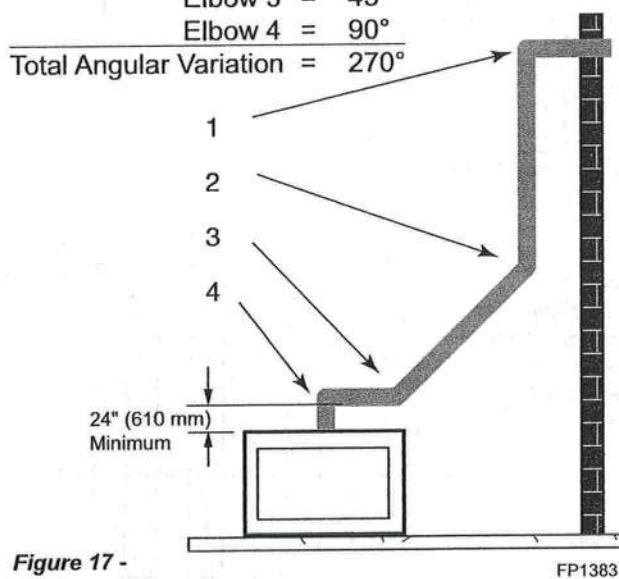

Figure 17 -
- The maximum number of elbow degrees in a system is 270°. *Figure 17*